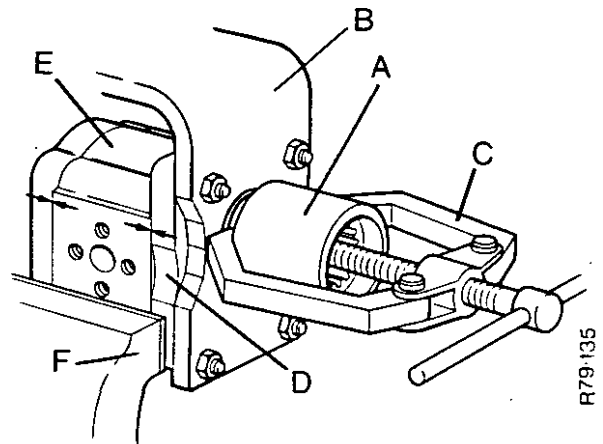

FIGURE 5. REMOVAL OF THE PUMP COUPLING
4. Carefully hold the pump body in a vice as shown in Figure 5. Use a puller to remove the coupling 'A' from the shaft. Take out the Woodruff key from its keyway on the shaft and remove any sharp edges.